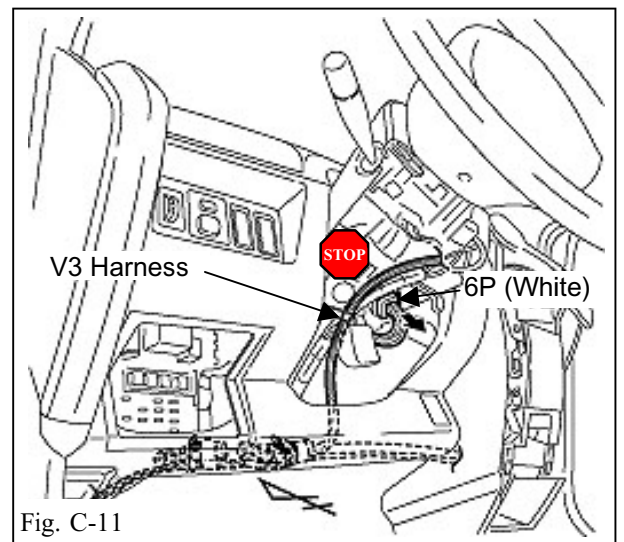

Fig. C-11
- 21. Route the V3 harness toward the lower part of steering wheel. (Fig. C-11)
- 22. Locate and disconnect the white 6P connector from the lower part of steering wheel. (Fig. C-11)